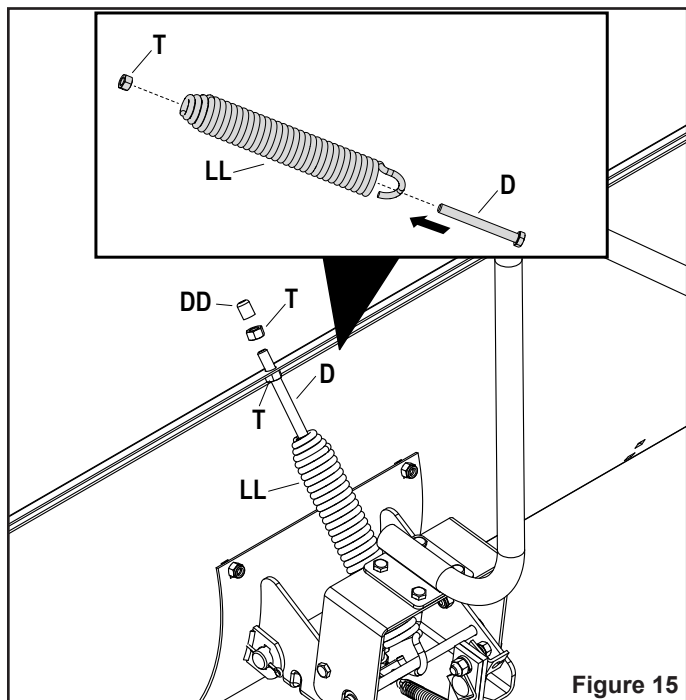

Figure 15
STEP 15: (SEE FIGURE 15)
- Insert a hex bolt (D) all the way through the trip spring (LL) and place a hex nut (T) one inch (1") onto the hex bolt as shown.
- Place the hook end of the trip spring (LL) around the rod of the channel sub assembly (2) with the hook opening facing the blade assembly (1).
- Insert the bolt end of the trip spring (LL) into the hole at the center of the blade assembly (1) and tighten the hex nut (T); then secure with another hex nut (T) and tighten.
- Place the vinyl cap (DD) on the end of the hex bolt (D).
The tension of the Blade Adjust Spring may be altered to permit the Blade to tilt forward to bypass solid obstructions. To change the Spring Tension, adjust the Nuts at the upper end of the Spring Bolt. Standing in front of Blade, turn the nuts counterclockwise to relieve tension and clockwise to increase tension. Refer to Figure 15.